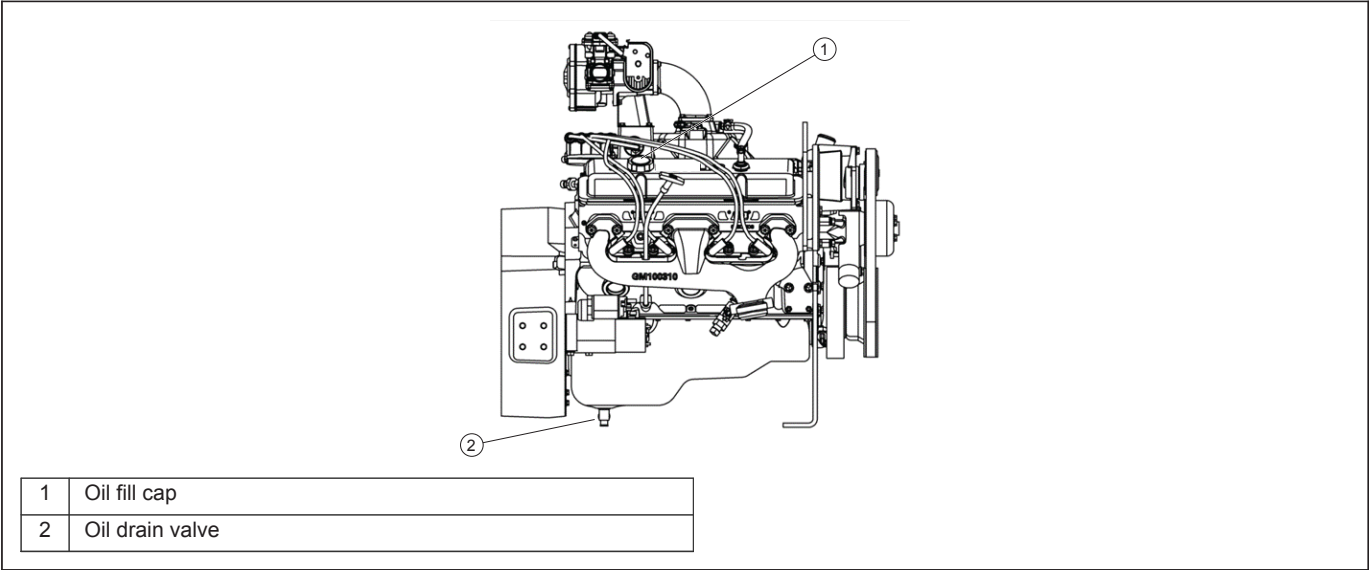

Figure 22: Oil Fill and Drain Valve Location
2. Place a drop cloth and collection container beneath the oil drain valve. See Figure 22.